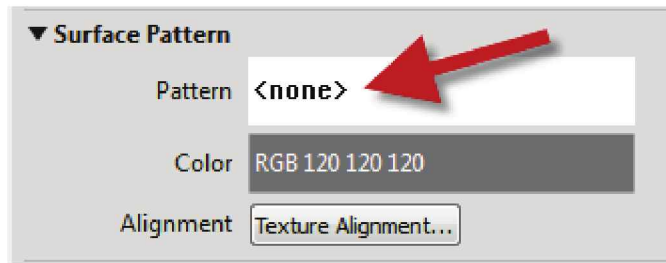

FIGURE 15-4.9 Setting surface pattern
19. Click the **Surface Pattern** preview area (currently set to “none”); see Figure 15-4.9.